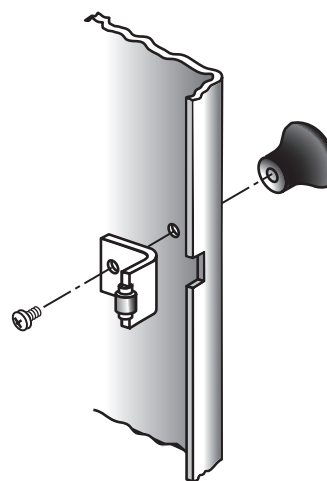

Fig. 2 Cabinet Door Knob Assembly
8. Install the door knob onto the outside of the door. Install the machine screw through the latch bracket, door, and into the knob. Tighten securely (fig. 2).